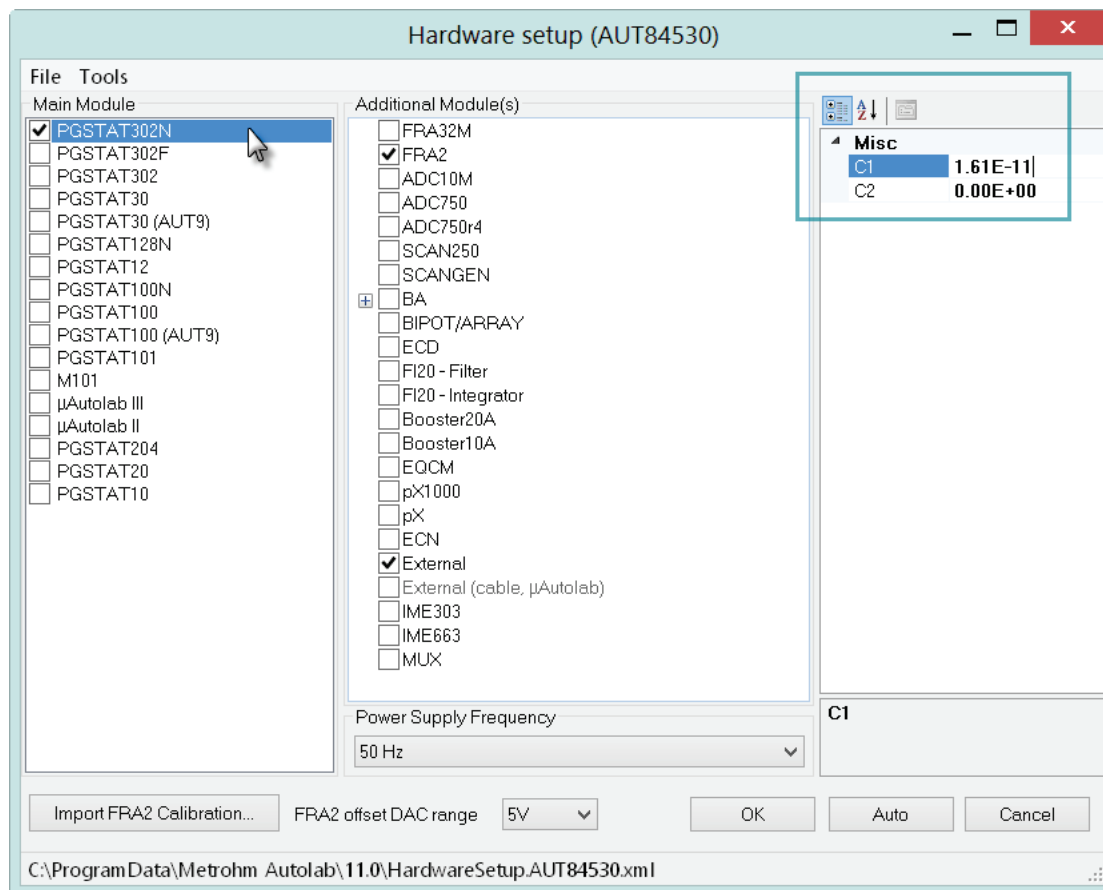

Figure 1.109 – Change the value of C1 to the value reported in the Message box
8. Open the Hardware setup of Nova (Tools – Hardware setup). Select the instrument type in the **Main Module** frame in the hardware setup window and adjust the value of C1 to the value reported in the Message box (see Figure 1.109).